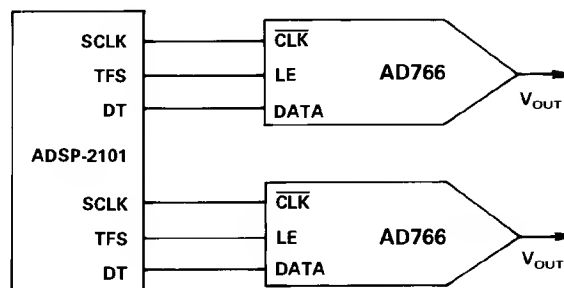

Figure 12. AD766 to ADSP-2101/ADSP-2102/ADSP-2105/ADSP-2111
The ADSP-2101 incorporates two complete serial ports which can be directly interfaced to the AD766 as shown in Figure 12. The SCLK, TFS and DT outputs of the ADSP-2101 are connected directly to the  $\overline{\text{CLK}}$ , LE and DATA inputs of the AD766, respectively. SCLK is internally generated and can be programmed to operate from 94 Hz to 6.25 MHz. Data (DT) is valid on the falling edge of SCLK. After 16 bits have been transmitted, the falling edge of TFS updates the AD766's data latch. Using both serial ports of the ADSP-2101, two AD766's can be directly interfaced with no additional hardware.